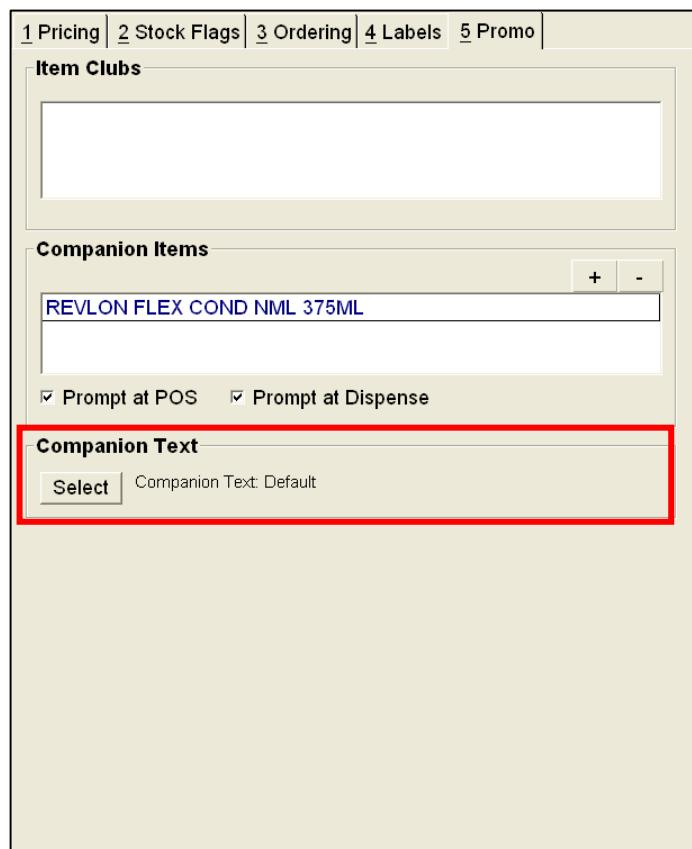

Figure 139
3. Select the '3 Ordering' tab and you will now see a 'Companion Text' section (see Figure 139).